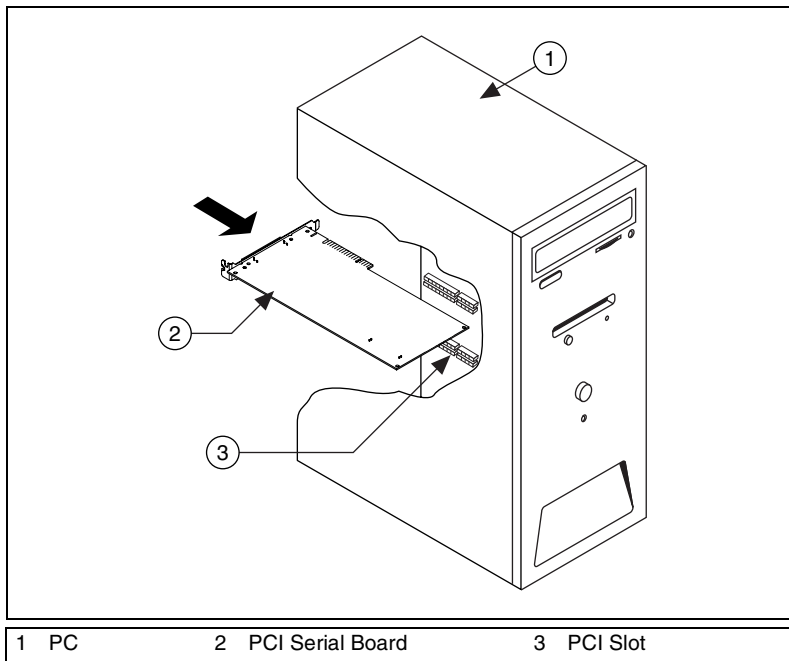

Figure 2-5. PCI Serial Board Installation
6. Insert the PCI serial board into the slot with the serial connectors toward the opening on the back panel. Make sure that you insert the board all the way into the slot. The board might seem to click firmly into place, even though it is only part of the way in. Figure 2-5 shows how to install the PCI serial board into an expansion slot.